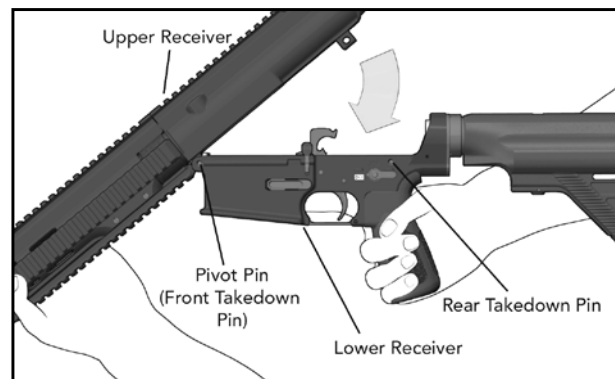

Fig. 65 – Closing Upper and Lower Receiver
- Mount the lower receiver to the upper receiver. Drift the front pivot pin from right to left. The pivot pin will not completely lock but it will engage the upper receiver (Fig. 65).